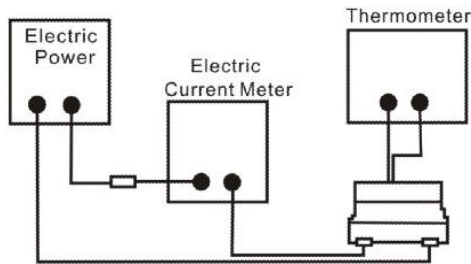

Fig.5.3.3-1
d. Definition of Temperature rise current: DC current that causes the temperature rise ($\Delta T = 40^\circ\text{C}$) from 20°C ambient (see Fig. 5.3.3-2).